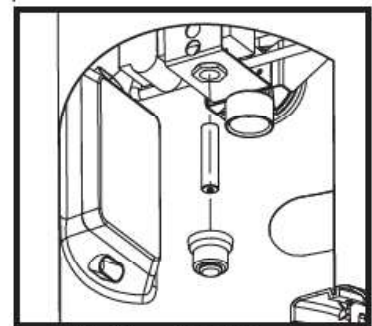

Fig. 2 Insert AAA Battery
2. Insert AAA battery (included) from the bottom base into the battery compartment as shown in figure 2.